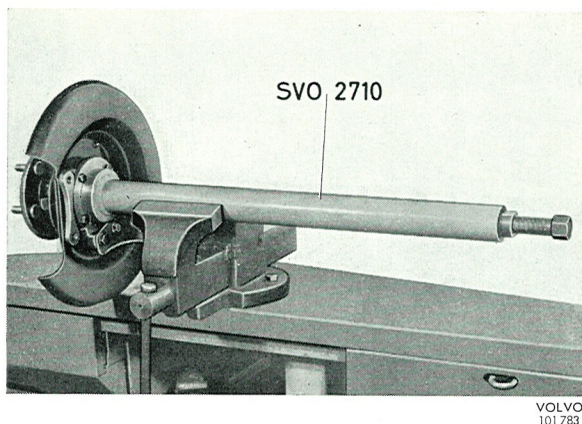

Fig. 4-81. Removing the drive shaft bearing
7. Place tool SVO 2710 in the vice. Insert the drive shaft and fit the attaching bolts for the brake backing plate and brake shoe retainers. With the puller, pull loose the bearing, see Fig. 4-81. Then remove the brake backing plate and brake shoe retainers.